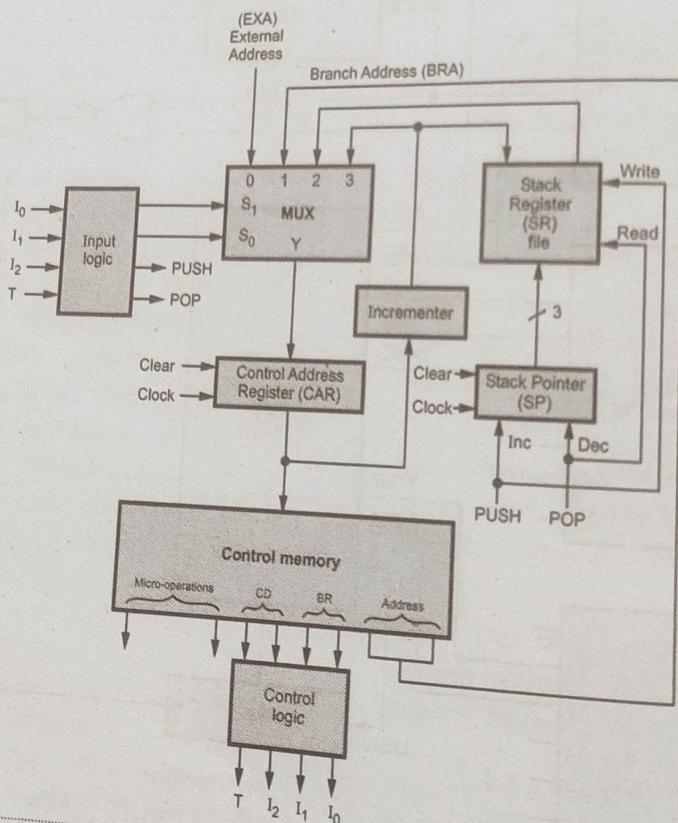

Fig. Q.18.1 Typical microprogram sequencer organization
• The Fig. Q.18.1 shows the block diagram of commercial microprogram sequencer. It consists of a multiplexer that selects an address from four sources and routes it into a control address register. The output from CAR are incremented and applied to the multiplexer and to the stack register file. The register selected in the stack is determined by the stack pointer. Inputs  $I_2$ ,  $I_1$ ,  $I_0$  and T derived from the CD and BR fields of microinstruction specify the operation for the sequencer. They specify the input source to the multiplexer also generate push and pop signals required for stack operation. The stack pointer is a three-bit register and it gives the address of stack register file consists of  $(2^3 = 8)$  eight registers. Initially, the stack pointer is cleared and is said to point at address 0 in the stack. Using push operation it is possible to write data into the stack at the address specified by the stack pointer. After data is written, stack pointer is incremented by one to get ready for the next push operations.